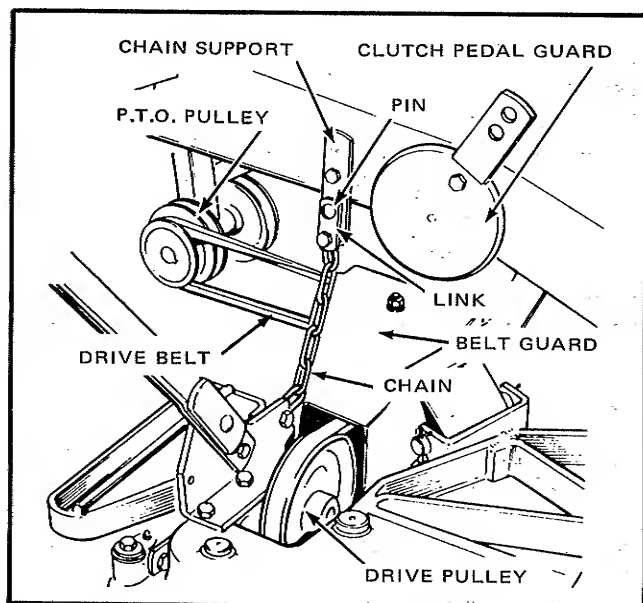

FIGURE 7
2. When using sickle bar for Mfg. No. 210, attach the clutch pedal guard as shown in Figure 7, using the hex capscrew, lock washer and hex nut furnished.
With the power take-off attached to the tractor, place the sickle bar drive belt in place on the pulley of sickle bar and attach the free end of the belt in place on smaller section of power take-off drive pulley. Refer to Figure 7 or 8. Make certain that the drive belt rides in the grooves of the idler pulleys located within the belt guard.